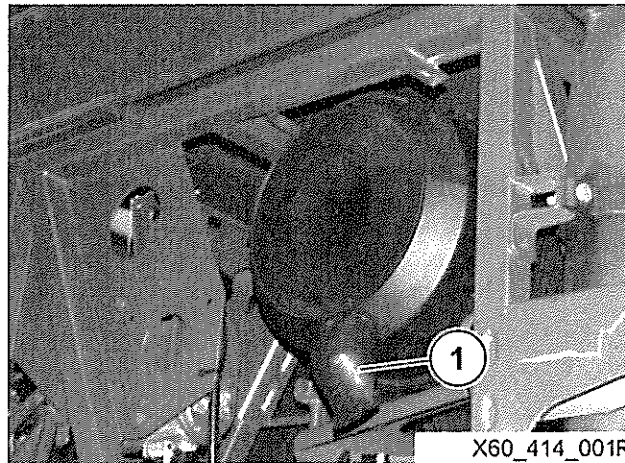

Fig 31 Check and drain the separator valve
79 Refer to Fig 31. To check and drain the separator valve (1), proceed as follows: